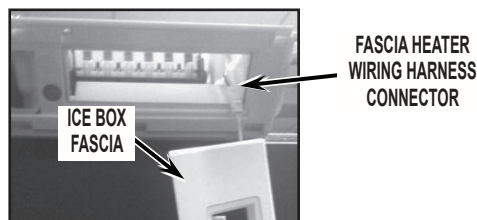

FIGURE 2
**NOTE:** If your ice box assembly has a revised ice box fascia with heater, you will need to disconnect the fascia heater wiring harness. See *Figure 2*.